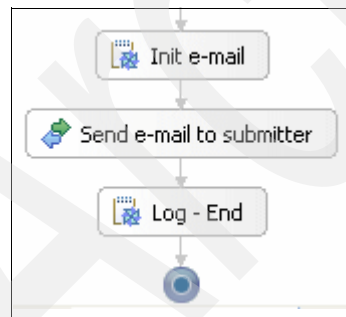

Figure 3-248 OrderManagementBP with e-mail logic
- c. Verify the process logic as shown in Figure 3-248.